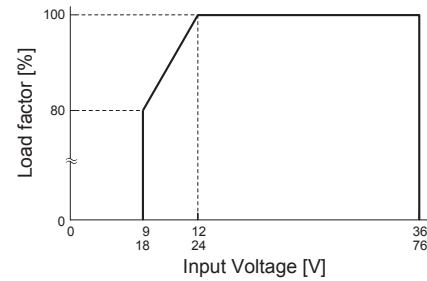

Fig.9.1 Input voltage derating curve
■ MGFS3, MGFW3, MGFS10 and MGFW10 has derating by input voltage is required. shown Fig.9.1.